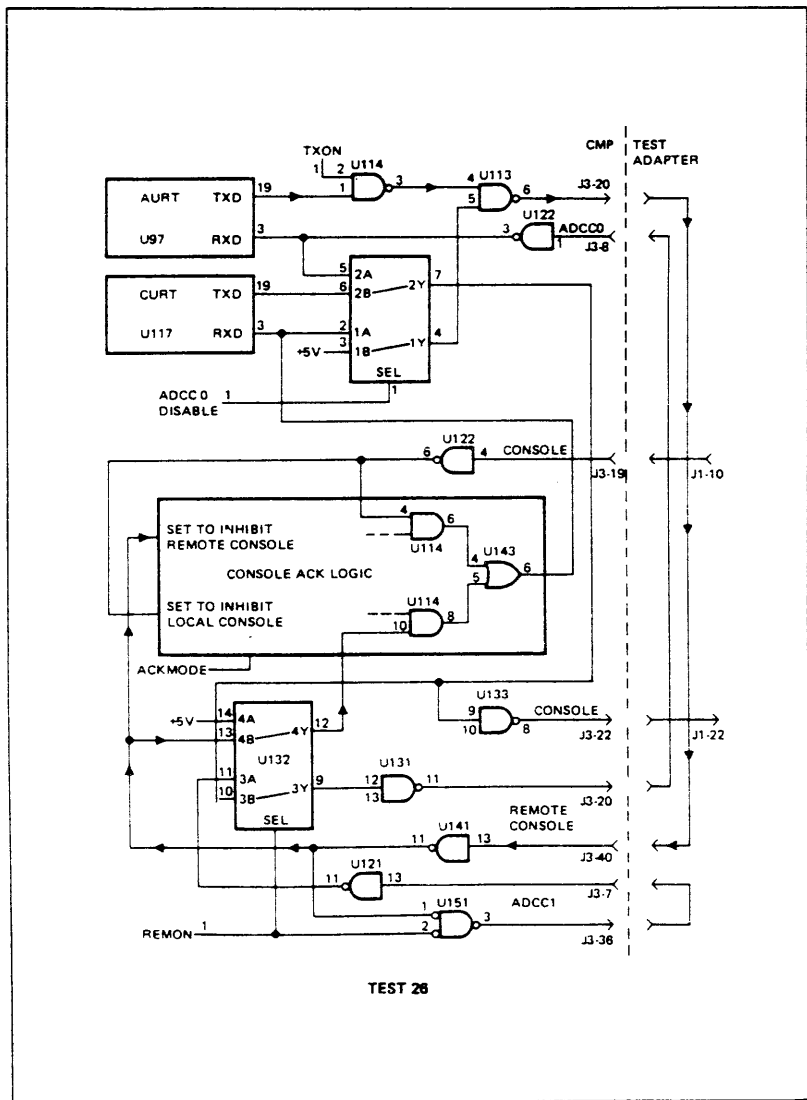

Figure 3-15. Data Comm Test Step 26
- 26 Data from the Remote Console sets the ACK circuitry to allow data from the Remote Console to be received by CURT in the next step. (See figure 3-15.)